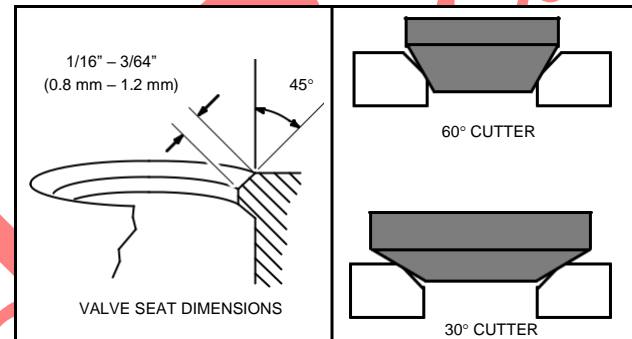

Fig. 23 – Exhaust Valve Seat Dimensions
- a. Use a 60° cutter to narrow seat from bottom and a 30° cutter to narrow seat from top, Fig. 23.